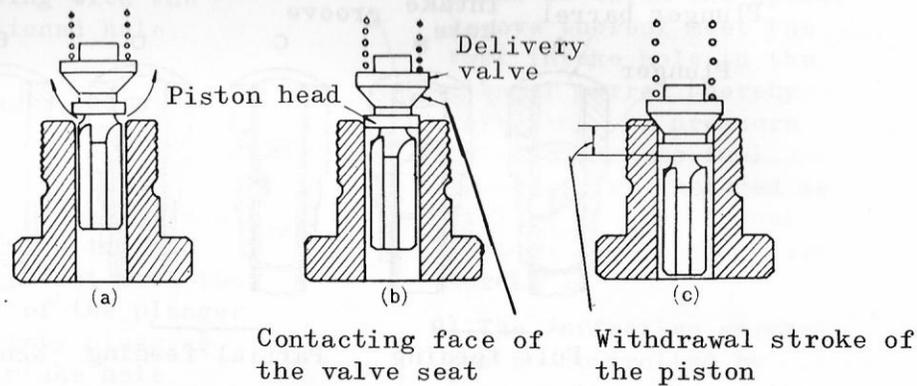

Fig. 9-7
- 2) The delivery valve is normally held in good contact with the valve seat with the delivery valve spring but when the pressure in the fuel increases with the elevation of the plunger and overcomes the tensile force of the valve spring, it causes the valve to open as illustrated in Fig. 9-7 (a) allowing the fuel to flow into the injection pipe. The delivery valve opening pressure is set to 30 kg/cm².
upon the fuel in the plunger side suddenly decreases allowing the valve to settle back in the valve seat with the aid of the valve spring as illustrated in Fig. 9-7 (b).
- 5) As the delivery valve rests properly on the valve seat as illustrated in Fig. 9-7 (c), the fuel is held from counter-flowing into the plunger side.